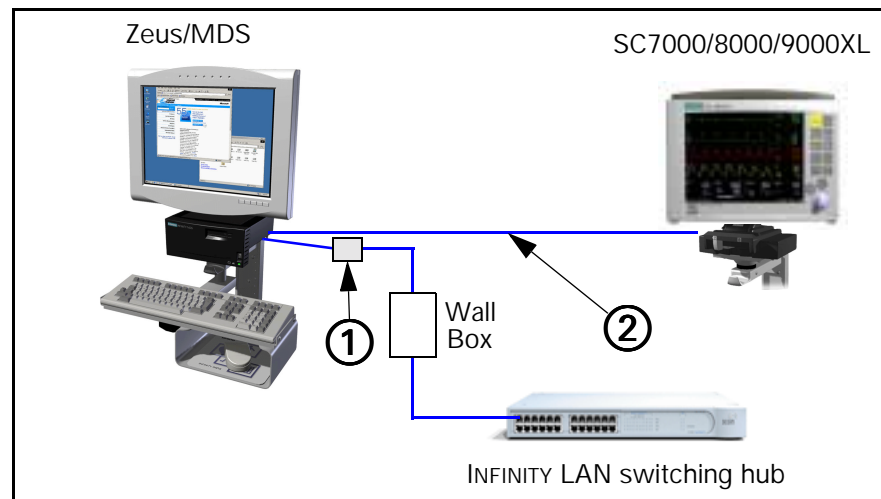

Figure 12-4 INFINITY Network Single Point Connection
- 1.2) Plug other end of Ethernet crossover cable into Ethernet coupler, ① in Figure 12-4.